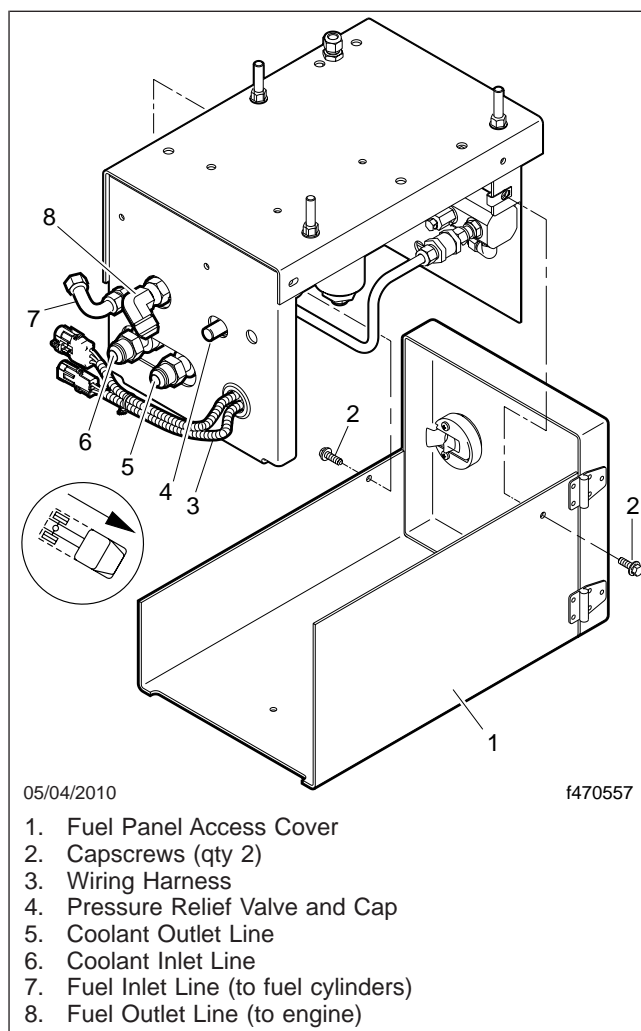

Fig. 11.14, CNG Fuel Panel Assembly
- 2.3 Remove the two capscrews that secure the access cover to the fuel panel, then remove the access cover. See Fig. 11.14. Save the capscrews for installation.